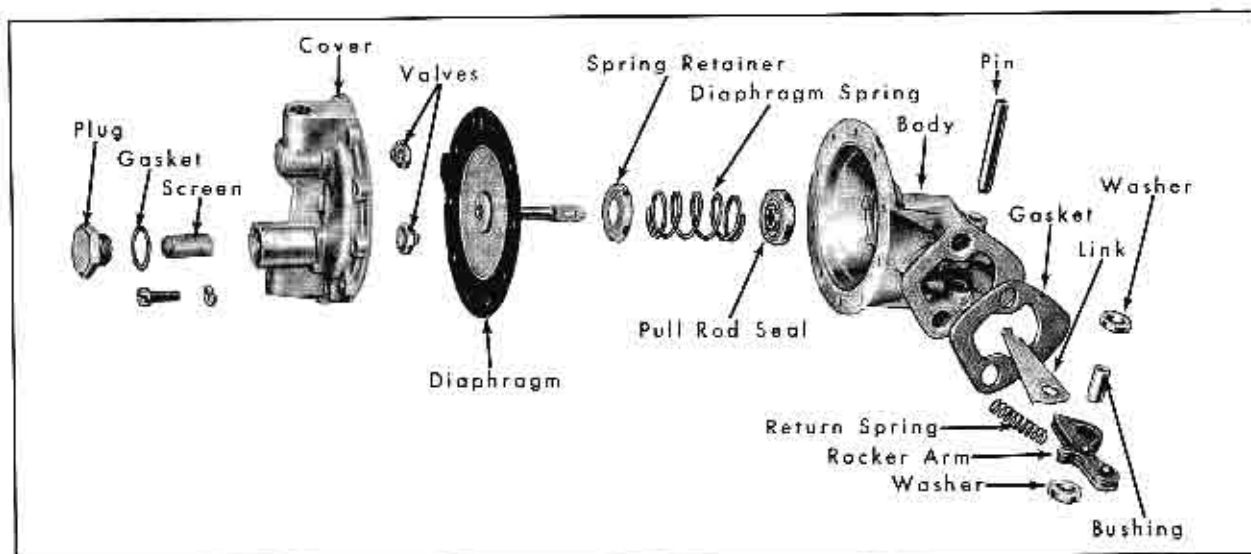

Fig. 12-58 Fuel Pump Disassembled
5. If valve and cage assemblies, Fig. 12-58, are worn or damaged, remove by prying out with a narrow screw driver blade.
2. Make an assembly of link and rocker arms with bushing. Fig. 12-58.